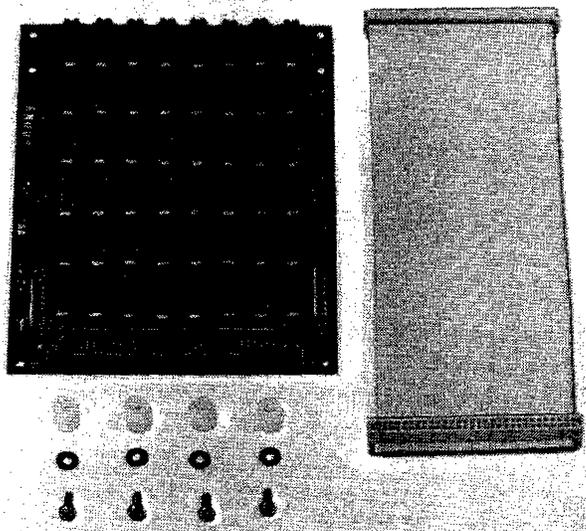

Fig. 4 - Extended Memory Circuit
4.03 For applications which require more than 128 seconds of message time, an Extended Memory Circuit Board (figure 4) is available. This memory board mounts next to the main circuit board in the Control Processor Chassis and provides additional sockets for another 384 seconds of message storage RAM chips. Memory may be added to this board in groups of four chips (32 sec) or eight chips (64 seconds) until a maximum of approximately 518 seconds is reached. The following list shows memory for 64 second chip sets.